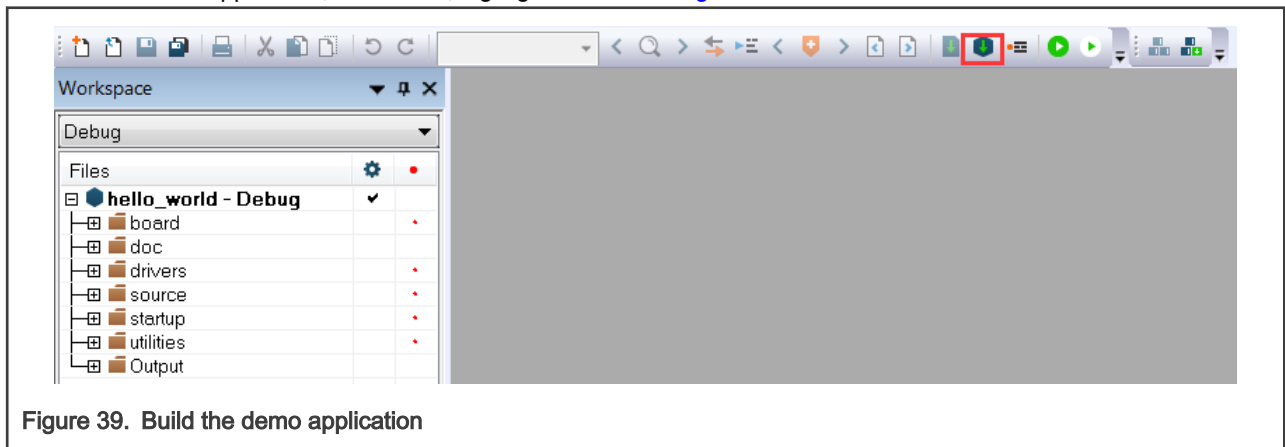

Figure 39. Build the demo application
3. To build the demo application, click **Make**, highlighted in red in Figure 39.